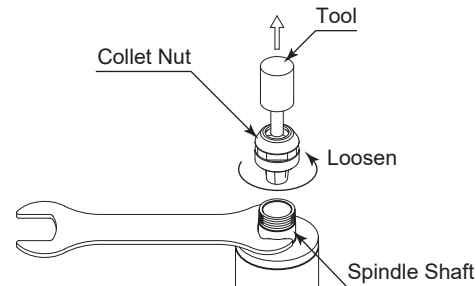

Fig. 7
- Remove the tool according to the section "7. CHANGING THE TOOL" procedure above and remove collet nut assembly (Fig. 7).